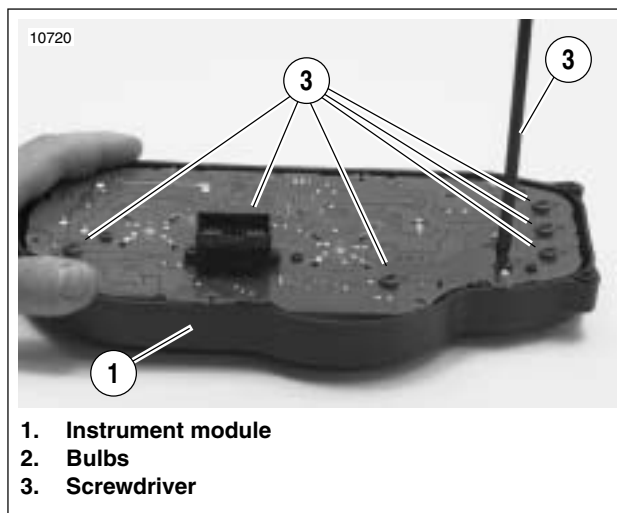

Figure 7-61. Bulb Replacement for Instrument Module
3. See Figure 7-61. Insert screwdriver blade into the slot on the back of the bulb to be replaced and lightly turn counterclockwise and remove bulb.